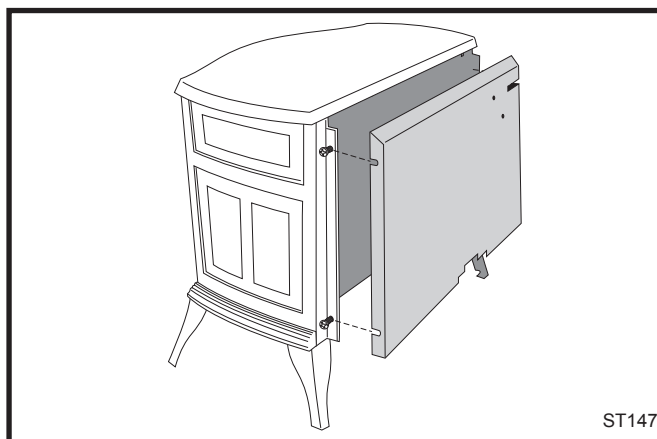
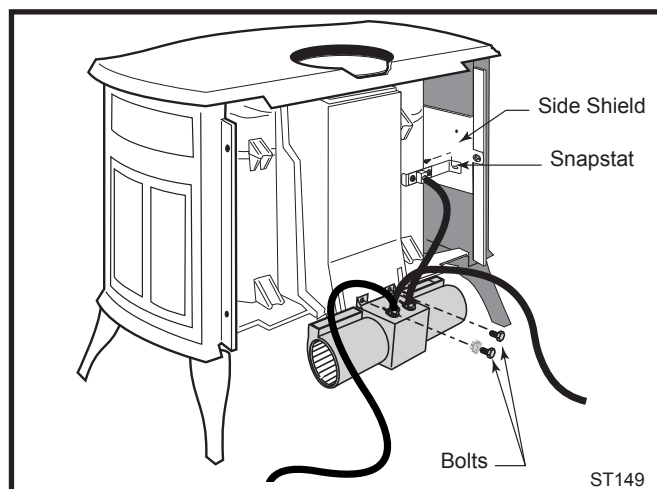

Fig. 15 Remove rear shroud.
Fig. 16 Attach blower assembly and snapstat.
2. Remove the rear shroud panel (Fig. 15) and fasten the blower assembly to the firebox back with the two bolts provided. (Fig. 16)
3. Attach the snapstat assembly to the snapstat bracket with two sheet-metal screws. Attach the snapstat bracket to the side shield. (Fig. 16)